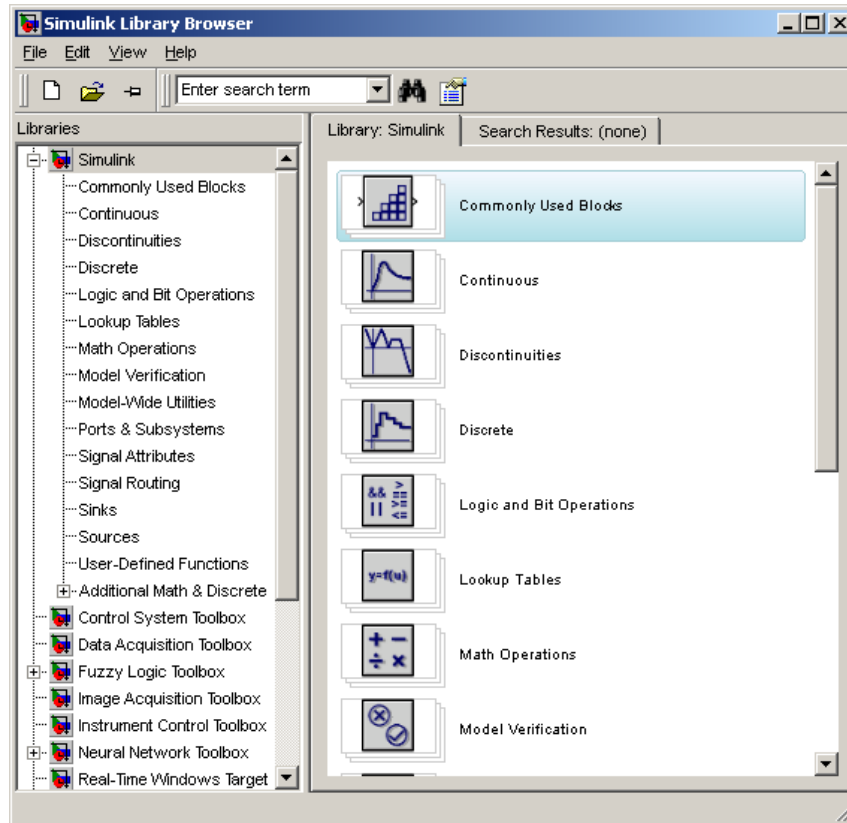

Figure 8: Simulink Library Browser
4. Type **simulink** at the command prompt and hit **enter**. The Simulink Library Browser in Figure 8 will open up.